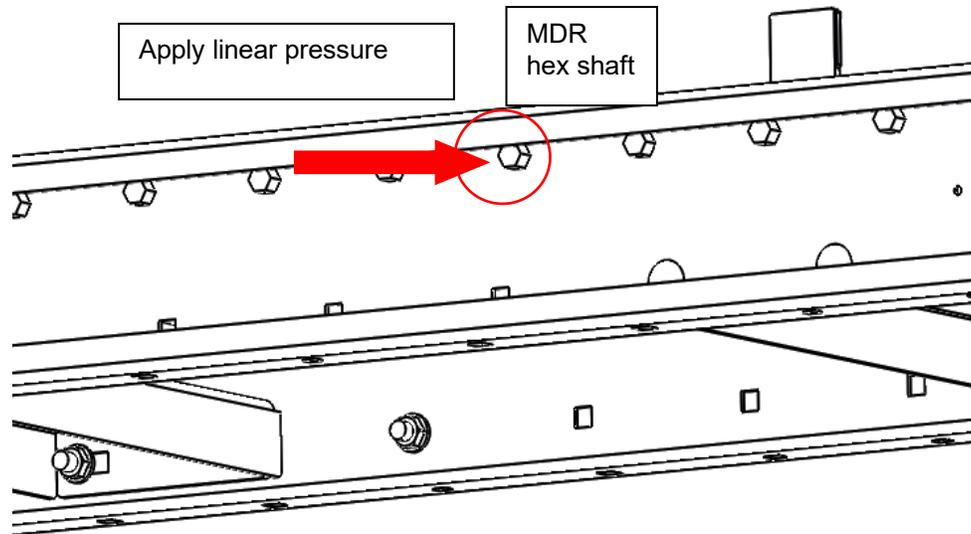

Figure 5: MDR Removal-2
5. Apply pressure on the end of the hex shaft opposite the cable using a small diameter punch or similar tool until the shaft clears the frame. Be careful NOT to apply a side load to the hex shaft. (Refer to Figure 5)
3. Apply pressure on the end of the hex shaft opposite the wiring using a small diameter punch or similar tool until the shaft clears the frame. Be careful NOT to apply a side load to the hex shaft. Refer to Figure 5.